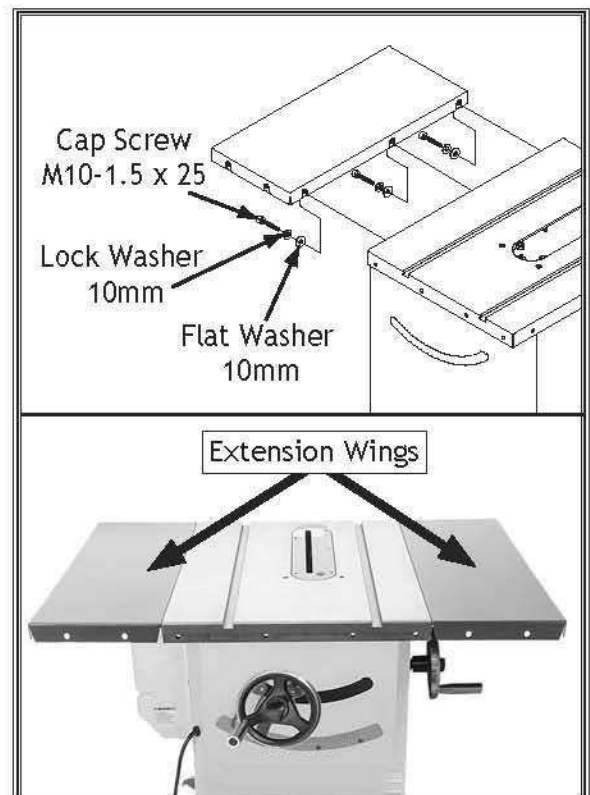

Figure 18. Extension wings installed.
8. With another person to hold wings in place, attach each extension wing to main table using (3) M10-1.5 x 25 cap screws, (3) 10mm lock washers, and (3) 10mm flat washers (see **Figure 18**).